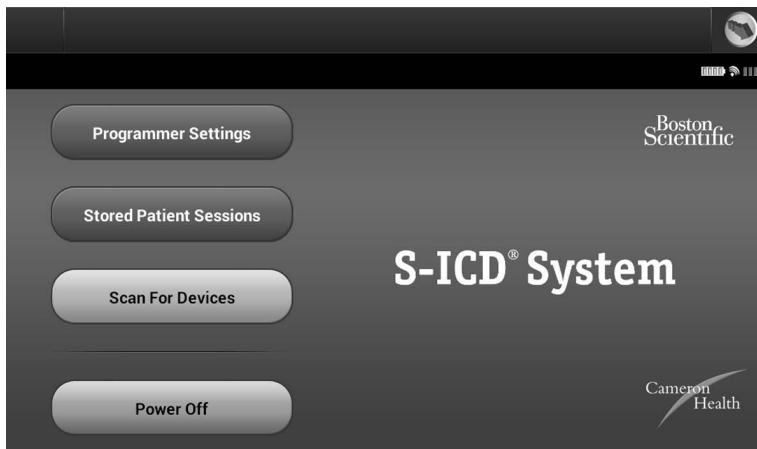

Figure 14: *Startup screen*
1. Select the Scan For Devices button on the Startup Screen (Figure 14). The Device List screen appears after the Scan Progress Bar displayed during the scanning process. Select the Cancel button at any time to end the scanning process.